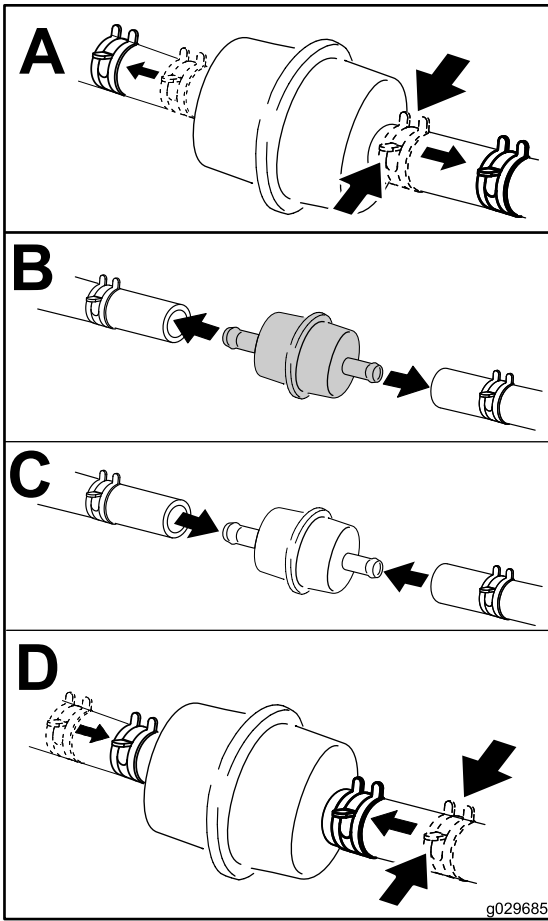

Figure 44
- Place a clean container under the fuel filter and replace the fuel filter as shown in Figure 44.